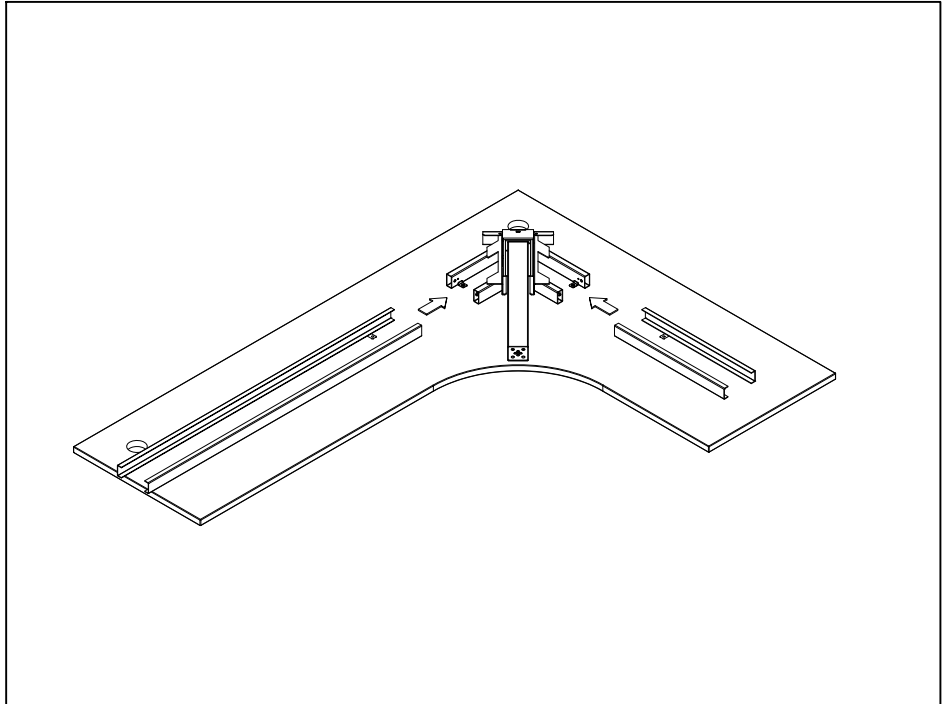

FIGURE 5
5. Slide the channels inside, with the screw mount into the corner leg (Figure 5).